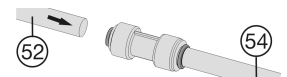

Fig. 24*
► Connect the supplied extension hoses Fig. 24 (54) to the appliance hoses Fig. 24 (52): Slide the appliance hoses into the connectors as far as they will go (approx. 11/16 " (17 mm)) (see 12 Installing the water filter*). *